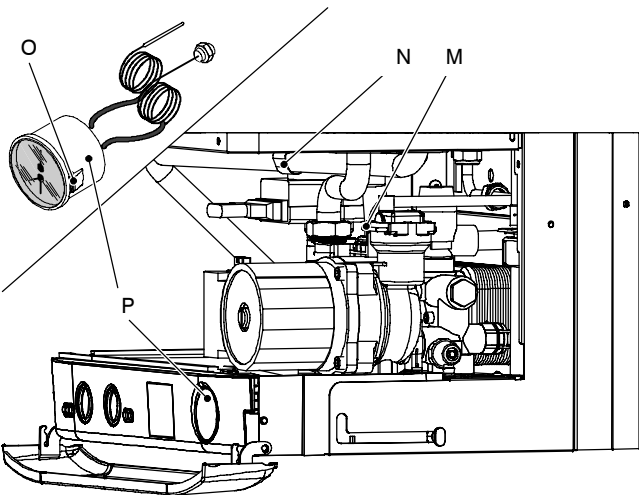

Fig. 57
- 2 Remove the fork M and the probe holder spring N (Fig. 57).